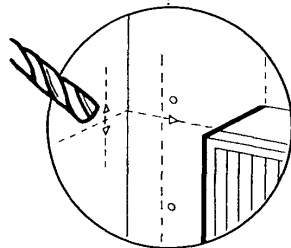

Fig. 39
12. Cut a hole approximately 107mm (4¹/₄ in) diameter in the masonry for the 100mm (4 in) diameter flue duct (Fig. 39). (Use of a core drill is recommended. When using a core drill, it is important to keep the drill level and square, particularly with the wall onto which the boiler is to be fitted).